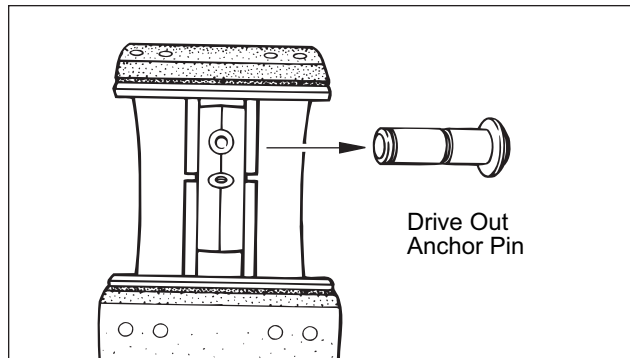

Figure 27. Anchor Pin Removal
5. Remove upper anchor pin with a brass drift or a mallet. Refer to Figure 27.